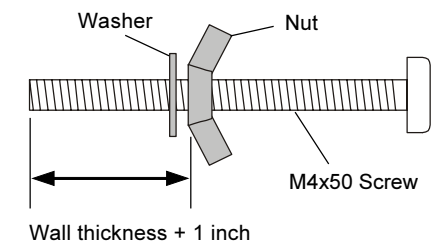

Figure 4
2. Assemble the supplied M4x50 Screw, Nut, and Washer as the Figure 4.